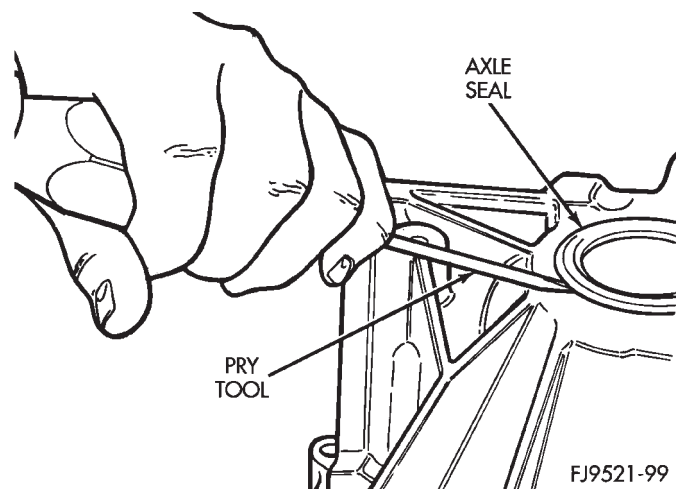

Fig. 130 Axle Shaft Seal Removal
(1) Insert a flat-blade pry tool at outer edge of axle shaft seal (Fig. 130).
(2) Tap on the pry tool with a small hammer and remove axle shaft seal.